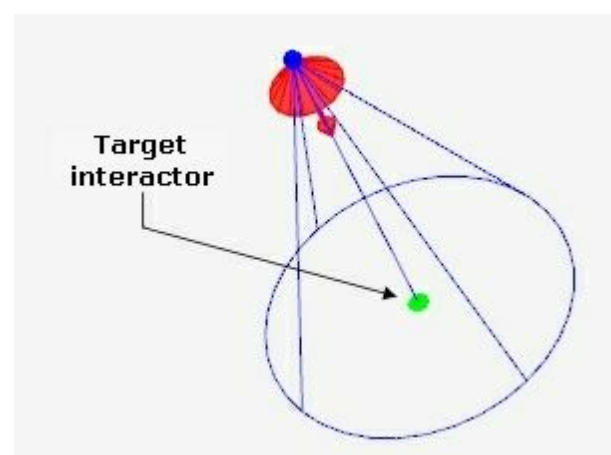

Figure 7
- The other interactor is the **target interactor** which is located at the end of the middle ledger line (highlighted in light green on figure 7).